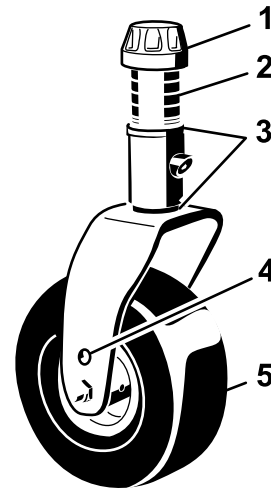
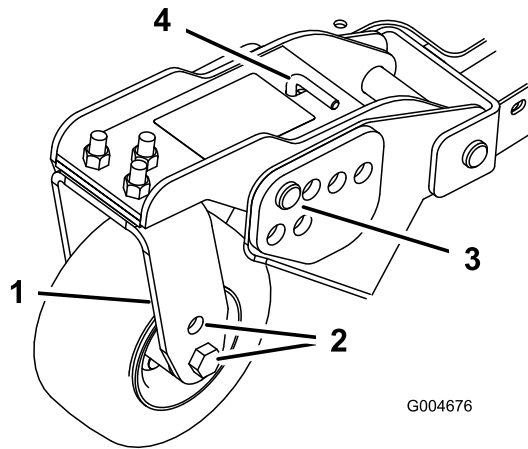
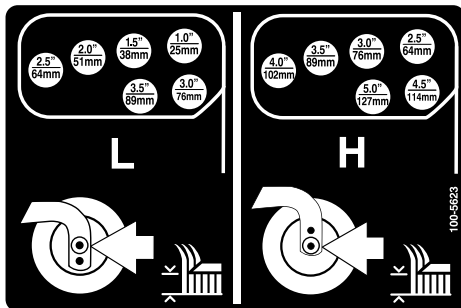

Figure 21
Figure 23
Figure 24
- Position the castor wheel axles in the same holes in all of the castor forks (Figure 21 and Figure 23). Refer to the following chart to determine the correct hole for the setting.
- Remove the tensioning cap from the spindle shaft (Figure 21) and slide the spindle out of castor arm. Put the two shims (3 mm [1/8 inch]) onto spindle shaft as they were originally installed. These shims are required to achieve a level across the entire width of the cutting units. Slide the appropriate number of 13 mm (1/2 inch) spacers onto the spindle shaft to get the desired height-of-cut; then slide the washer onto the shaft.
4. Remove the hairpin cotter and clevis pins from the castor pivot arms (Figure 23).
5. Rotate tension rod to raise or lower pivot arm until holes are aligned with selected height-of-cut bracket holes in the cutting unit frame (Figure 23 and Figure 24).